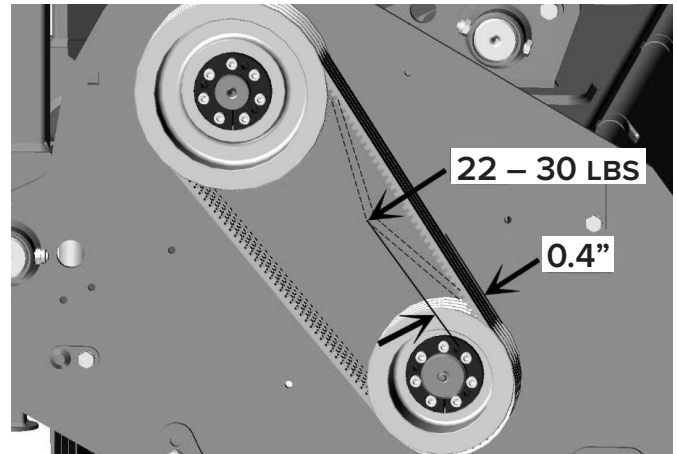

Figure 8
2. Check for correct belt tension. Apply about 22 – 33 lbs (10 – 15 kg) of force in the middle of the belts set. Measure the deflection of the belts (see Figure 8).